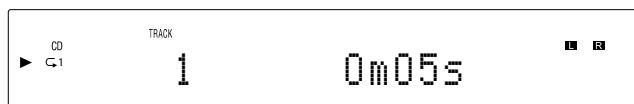

Figure 23
1. With the disc playing (Regular, Program or Random Playback Modes), press the REPEAT Push-button once to activate the Track Repeat (C1); press the REPEAT Push-button twice to activate the Disc Repeat (C2). Refer to figures 23 and 24.